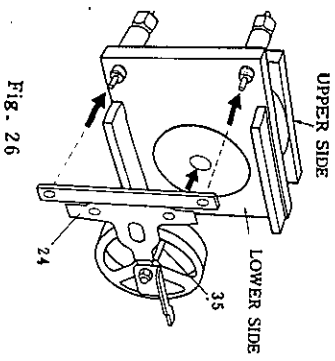

Fig. 26
Insert both (35) and (24) towards the arrow as shown in Fig. 26